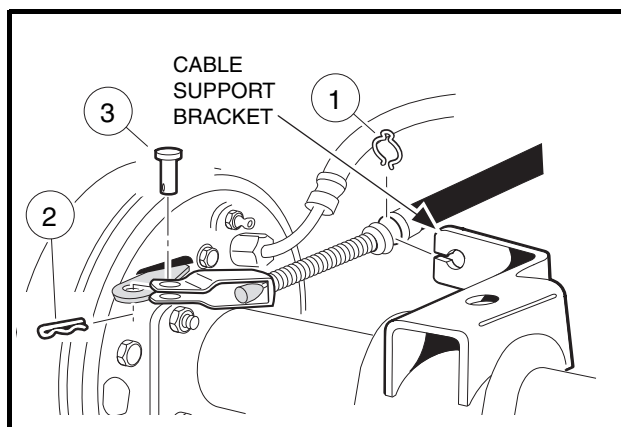

Figure 6-16 Park Brake Cable
3. Remove park brake cable clip (1), hair spring cotter pin (2) and clevis pin (3) (**Figure 6-16, Page 6-18**).
3. Install the park brake cable into the cable support bracket by sliding the coiled spring wire through the slot in the bracket and feed the clevis end to the park brake lever (Figure 6-16, Page 6-18).
4. Install the park brake cable clip (1), clevis pin (3) and hair spring cotter pin (2).